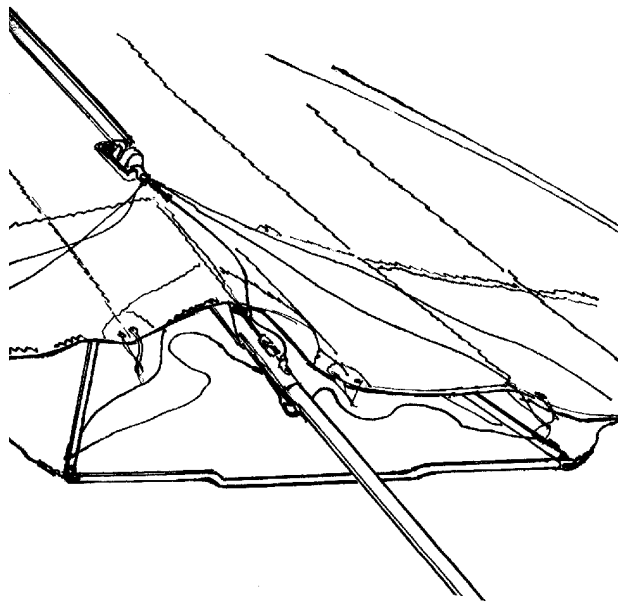

Fig.41
2.5.2. Lay the glider on the ground nose into the wind. If the wind is more than 8 m/s (18 mph) disattach the hook of the top rear wire, move the kingpost forward and attach the hook to the hole in the sail for the kingpost (Fig.41).